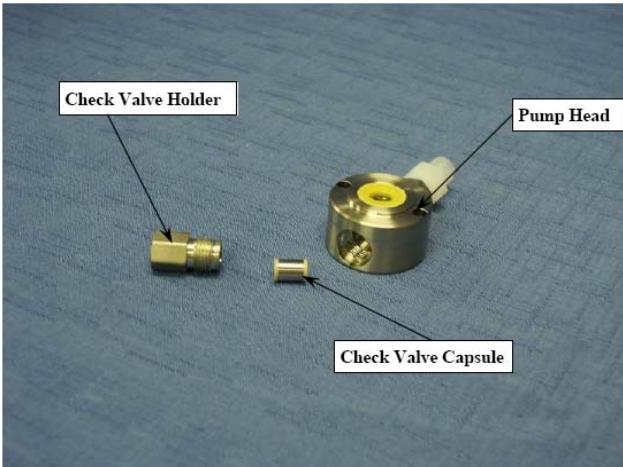

Figure 6-5: Check Valve and Check Valve Holder
1. Remove the check valve holder from the pump head. The check valve capsule will then be accessible as shown in Figure 6-5.